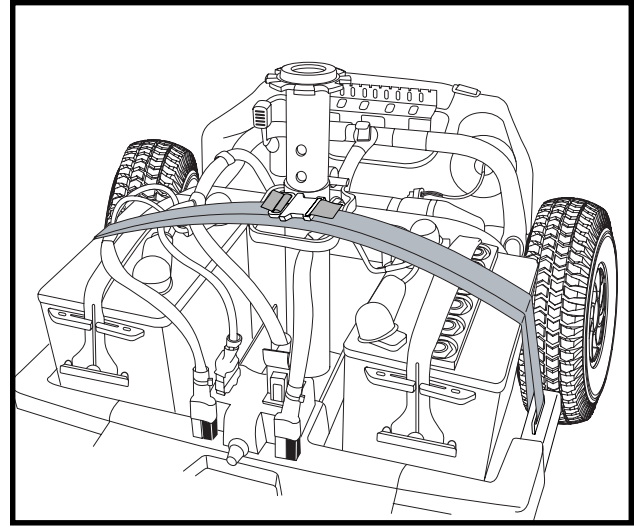

Figure 13A. Battery Tie-Down Strap
10. Reconnect the battery tie-down strap. See figure 13A.